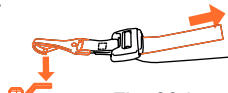

Fig. 33d
8. Attach Top Tether to a designated anchor point. Pull Top Tether strap until webbing strap is snug (Fig. 33d).